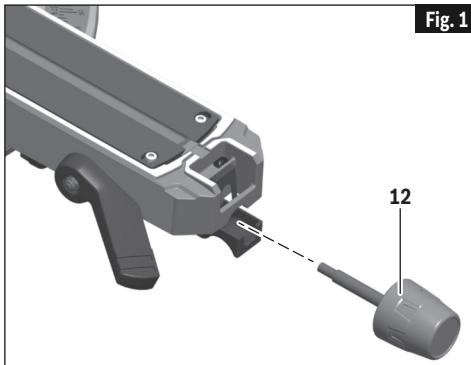

Fig. 1
1. Look under the turntable's front arm above the lock lever and locate the 10mm hole (see Fig. 1).